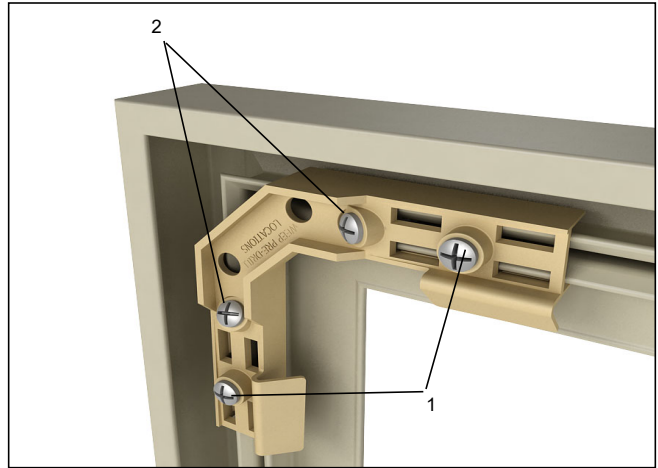

Figure 8
3. Fasten the corner key with included screws. First apply the outside 90° screws (1) followed by the two inside angled screws (2). Fasten until joints are tight. Over tightening may cause screw channel to strip out. See *figure 8*.